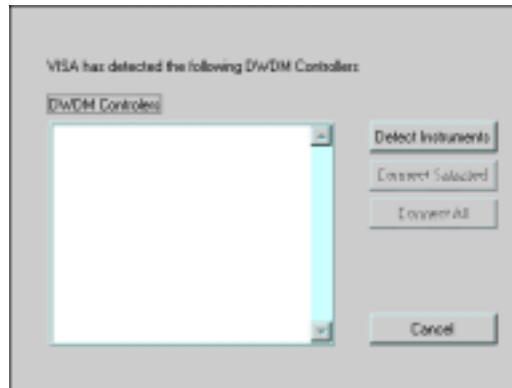

Figure 2-4. Instrument Detect Window
1. From the menu bar, select **Instrument** → **Detect...** to display the Instrument Detect window shown in Figure 2-4.: